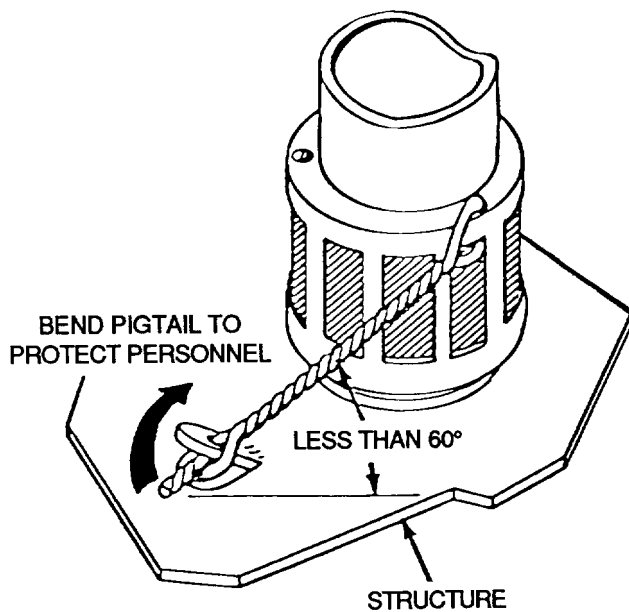
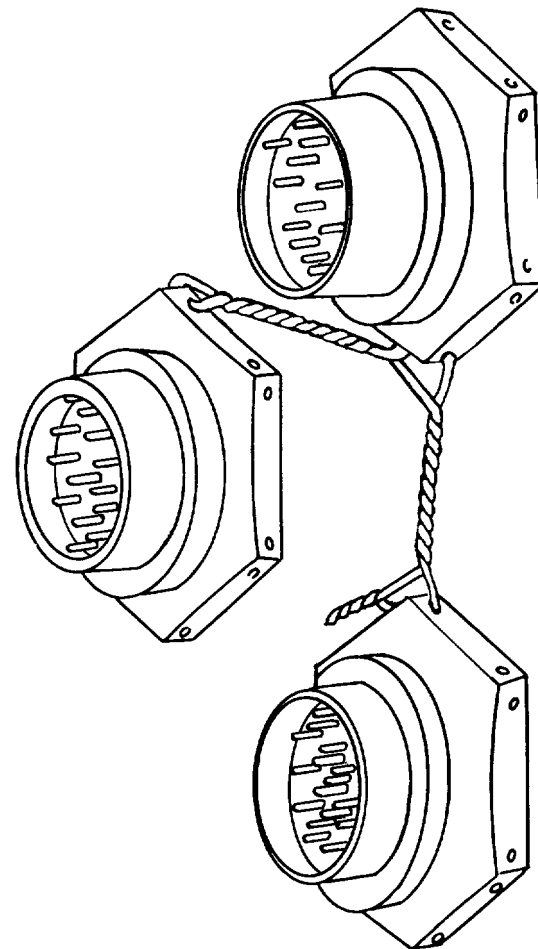

Figure 7. Lockwiring Connector to Structure
Figure 8. Lockwiring Jam Nut Receptacles
18. **No Provision.** Connectors mated to a receptacle with no lockwire provision shall be lockwired to a hole. If no provisions are made, contact CFA for guidance. (Figure 7).
19. **JAM NUT RECEPTACLES.** Jam nut receptacles shall be lockwired using the double twist method using the thru holes in the jam nut to another jam nut. Up to three jam nuts may be lockwired together (Figure 8) When only one jam nut receptacle is used, the nut must be safety wired to structure (Figure 7). If no provisions are made, refer to paragraph 18.